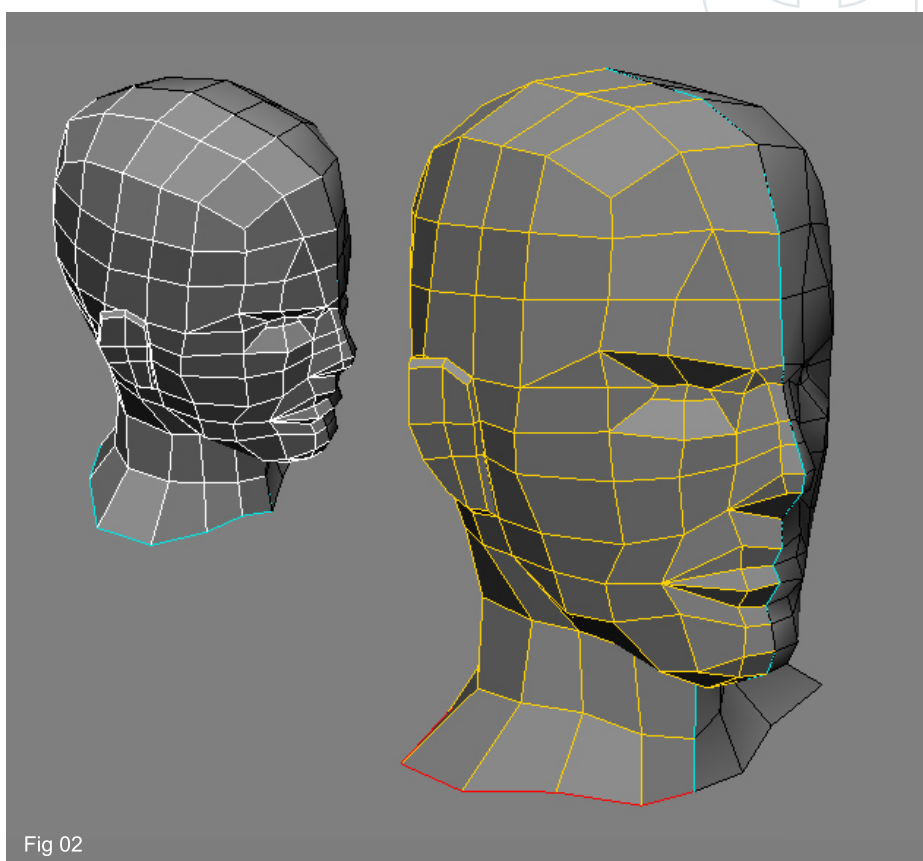

Fig 02
2. Keep extruding the same loop of edges outwards, to start creating the shoulders like shown in Fig02. Use the small picture as a reference to reshape the vertices after the extrusion.